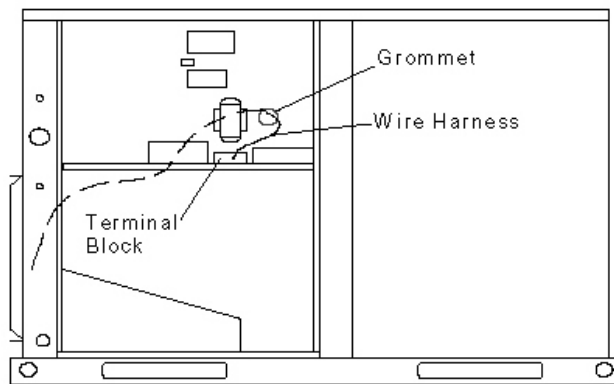

Figure 6: Installing Terminal Block
12. Place the terminal block in the open area at the predrilled holes as shown in Figure 6. Secure using two screws provided with the terminal block.